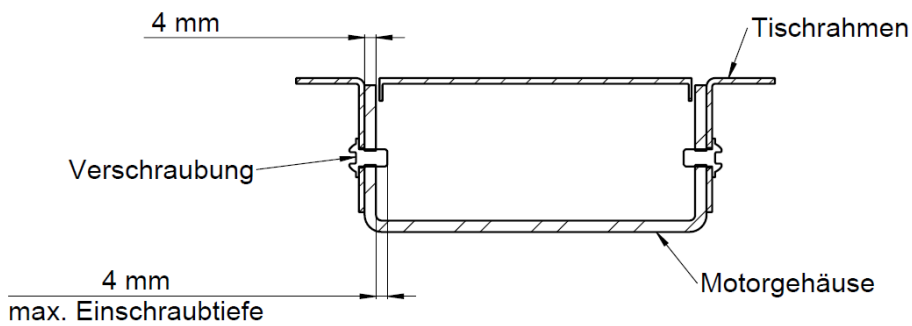

Figure 25 Maximum thread depth for the installation of the lifting columns
- The table frame system is suitable for table tops with a depth of 600 mm – 800 mm, see figure 25. The table top is not included in the scope of delivery.